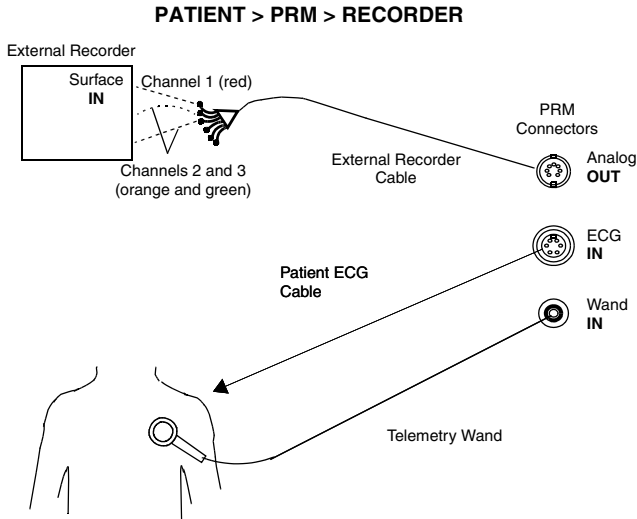

Figure 13. PRM receives surface signal via the patient cable and then sends surface and telemetered channels to the external strip chart recorder.
- Patient to PRM to external recorder (Figure 13)
To display a tracing on the PRM and an external strip chart recorder using the patient ECG cables, set up equipment as shown in Figure 13.